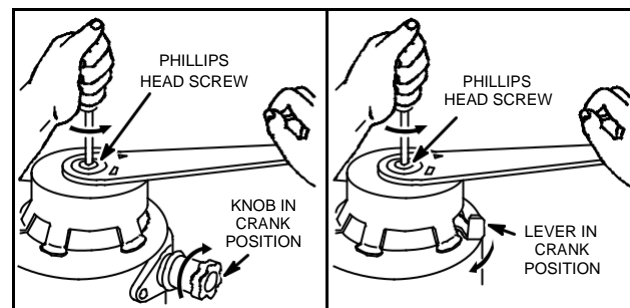

Fig. 637 – RELEASING SPRING
3. To prevent injury, hold crank handle with one hand while removing Phillips head screw and handle assembly from starter housing. This will release spring, Fig. 637.
2. Remove screw holding cranking handle to housing, Fig. 637.